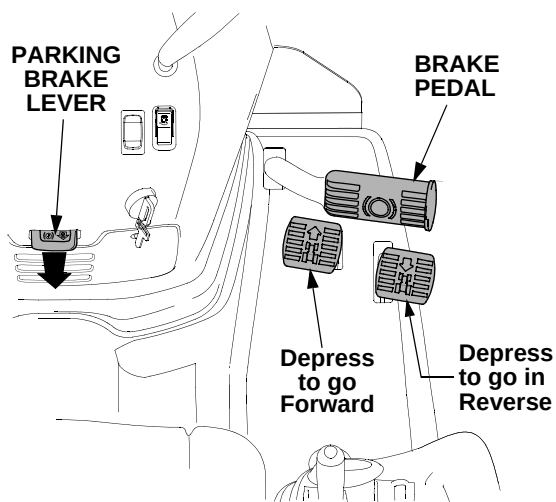

Figure 14
- Fully depress the brake pedal to bring the tractor to a complete stop. Push downward on the parking brake lever and release the pedal to engage the parking brake. See Figure 14.
- To move forward, slowly depress the forward control pedal (See Figure 14) until the desired speed is achieved. The speed of the tractor is directly related to the distance the pedal is depressed.
- To move in reverse, check that the area behind is clear then slowly depress the reverse control pedal. See Figure 14.